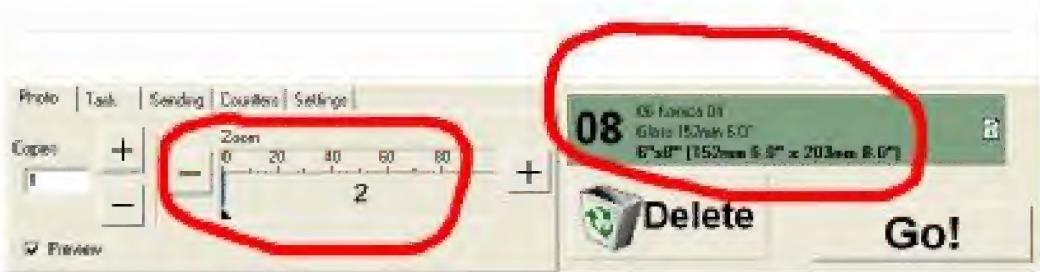

Fig 2.5.5
- On Photo tab select lens 002 by clicking + or – in Zoom (Fig 2.5.5).
- Select format 152x203mm (Fig 2.5.5).